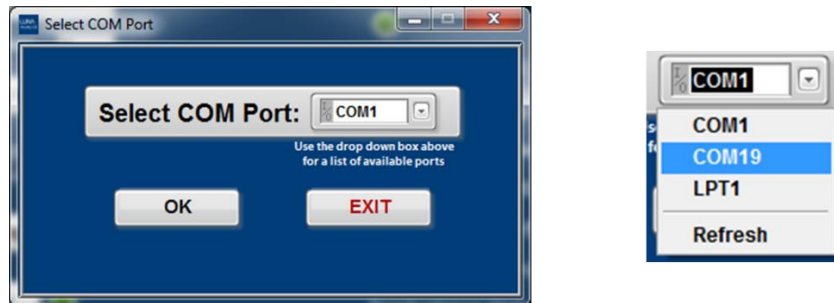

Figure 6. Configuring the communications (COM) port.
3. The communications (COM) port selection window will appear first (Figure 6, left). This step is required to tell the computer how to communicate with the Acuity LS communications cable.
4. To select the COM port, verify that the communications cable is plugged into the computer and click the small arrow beside the “COM1” label to get the drop-down menu. This shows a list of the available serial communications ports (Figure 6, right).